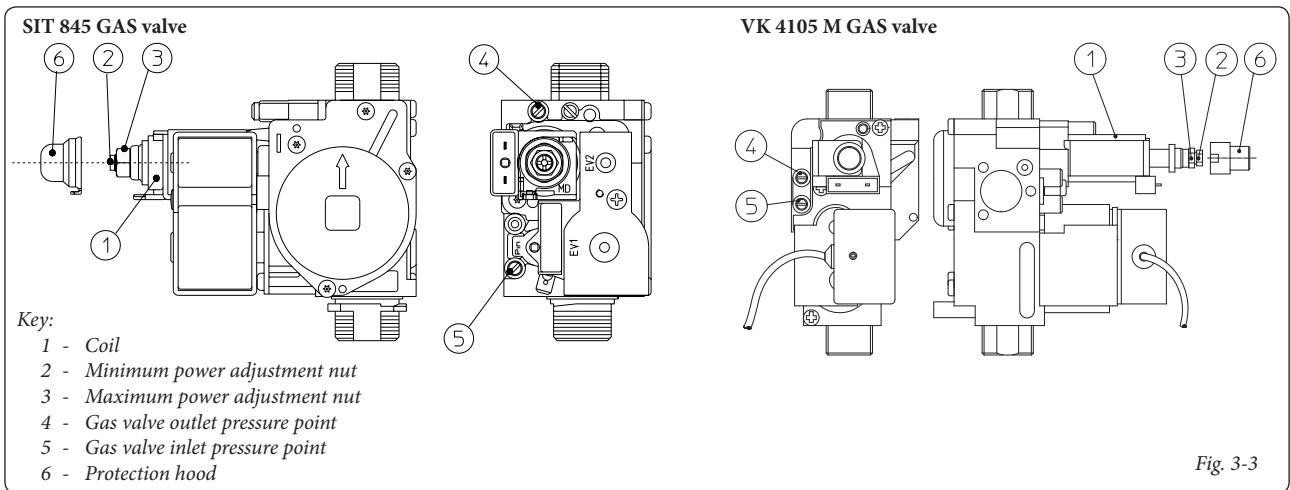

Fig. 3-3
N.B.: all boiler adjustment operations must be carried out by a qualified technician (e.g. Immergas After-Sales Technical Assistance). Burner adjustment must be carried out using a differential "U" or digital type manometer connected to the gas valve outlet pressure point (part. 4 Fig. 3-3), keeping to the pressure value given in the table (Par. 3.18) according to the type of gas for which the boiler is prepared.
N.B.: to adjust the gas valve, remove the plastic cap (6); after adjusting, refit the cap.
- Adjust the boiler nominal power on the brass nut (3 Fig. 3.3), keeping to the maximum pressure values stated in the tables (Par. 3.18) according to the type of gas; by turning clockwise the heat potential increases, anti-clockwise it decreases.